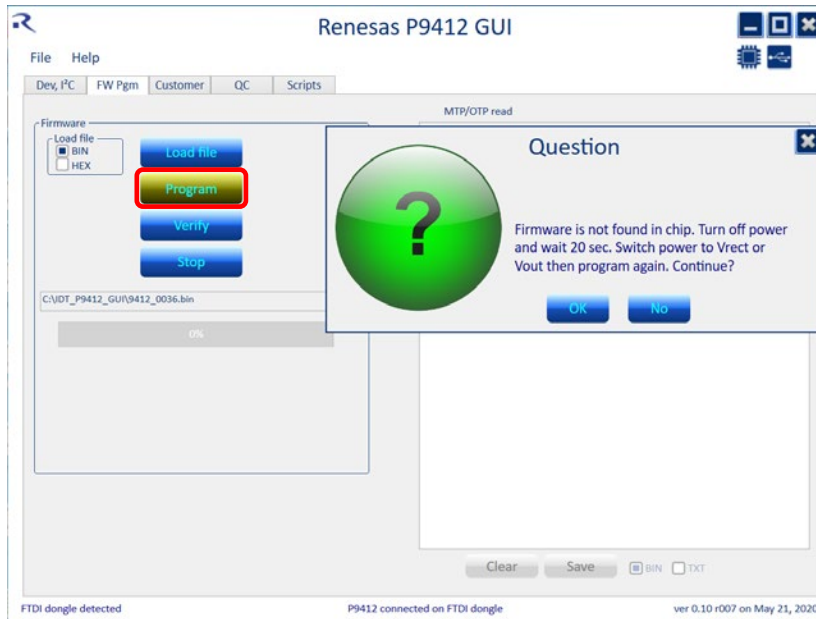

Figure 9. GUI Detects an Unprogrammed Part and Issues a Warning
| Figure 9. | GUI Detects an Unprogrammed Part and Issues a Warning | 11 |
- a. If an un-programmed part is detected, the GUI will issue a warning message (see Figure 9). Follow the instructions: Turn off the external P/S and connect to Vrect or Vout, wait for 20 seconds, then turn on the P/S and try to program again by “clicking” on the OK button. Failure to connect the external P/S to Vrect or Vout when programming a blank IC can result in damage to the part.